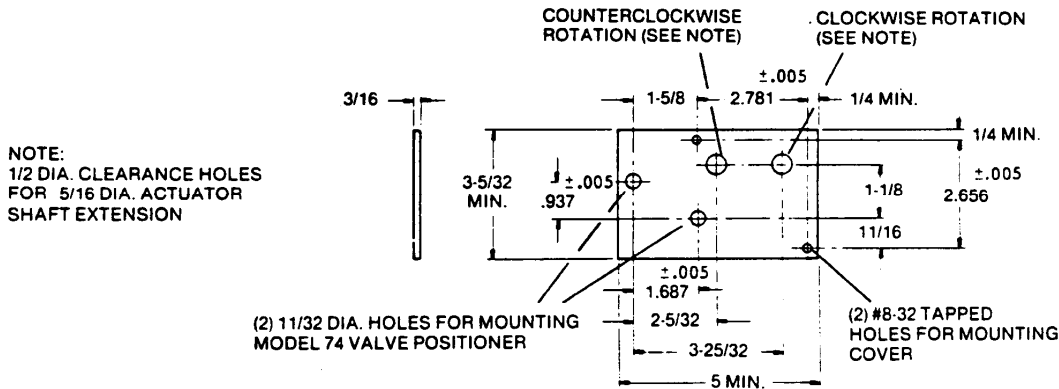

FIGURE 2-5 Mounting Plate
1. If a kit without a mounting plate was ordered, fabricate a plate. Refer to the dimensions in Figure 2-5. The valve actuator shaft must have a diameter of 0.3125" ( $\pm 0.001$ ").